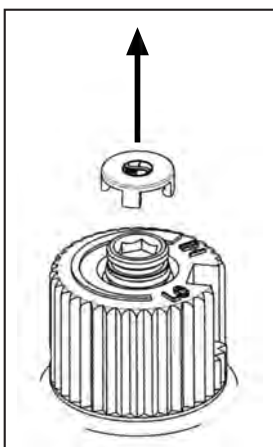

Figure 14: Removing valve cap.
- Remove the black protection cap from the HI/LO knob by hand shown in Figure 14.
- Re-attach the black protection cap that was removed in step a (Figure 14).